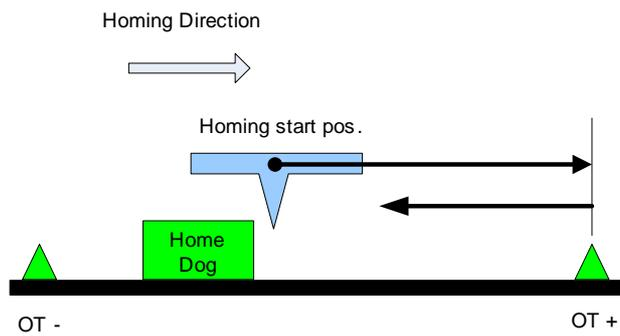

Fig. 3-4
- Auto: The platform moves along the homing direction to search the home dog sensor. It triggers the limit sensor of positive direction and moves backward the reverse direction to search the home dog sensor if the home sensor can not be found in the positive homing direction. If the platform triggers the limit sensor in the reverse direction before the home dog is found, the system stops homing and gives the alarm. (Fig. 3-4)